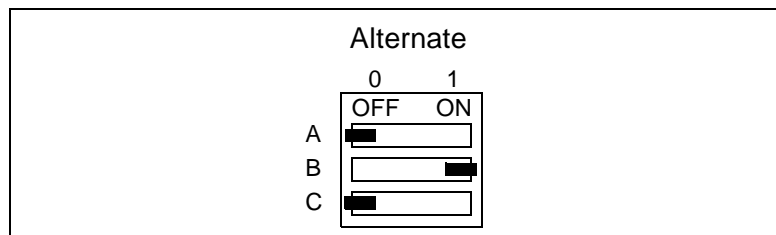

Figure 4-6 Alternate switch S1 selection.
- Alternate, refer to page 30, Figure 4-6 and Table 4-9 to Table 4-11.
- Alternate 2, refer to page 31, Figure 4-6 and Table 4-12 to Table 4-13.